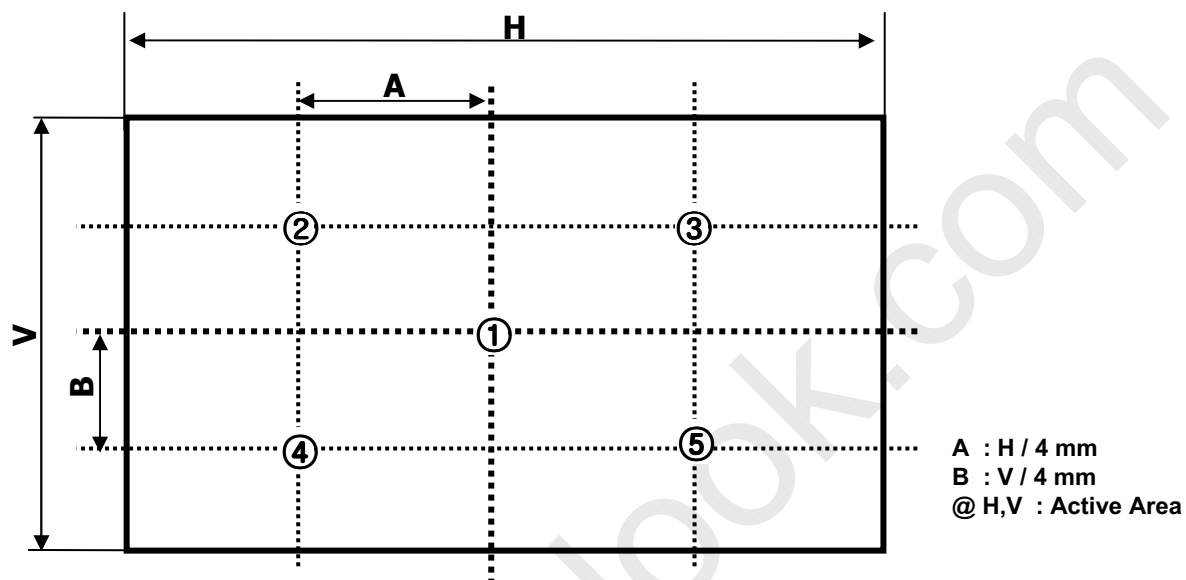

FIG. 2 Measure Point for Luminance
n = the Position number(1, 2, 3, 4, 5). For more information, see FIG 2.
2. Surface luminance are determined after the unit has been 'ON' and 30min after lighting the backlight in a dark environment at  $25 \pm 2^\circ\text{C}$ . Surface luminance is the luminance value at center 1-point across the LCD surface 50cm from the surface with all pixels displaying white. For more information see the FIG. 2.
For more information, see FIG 2.